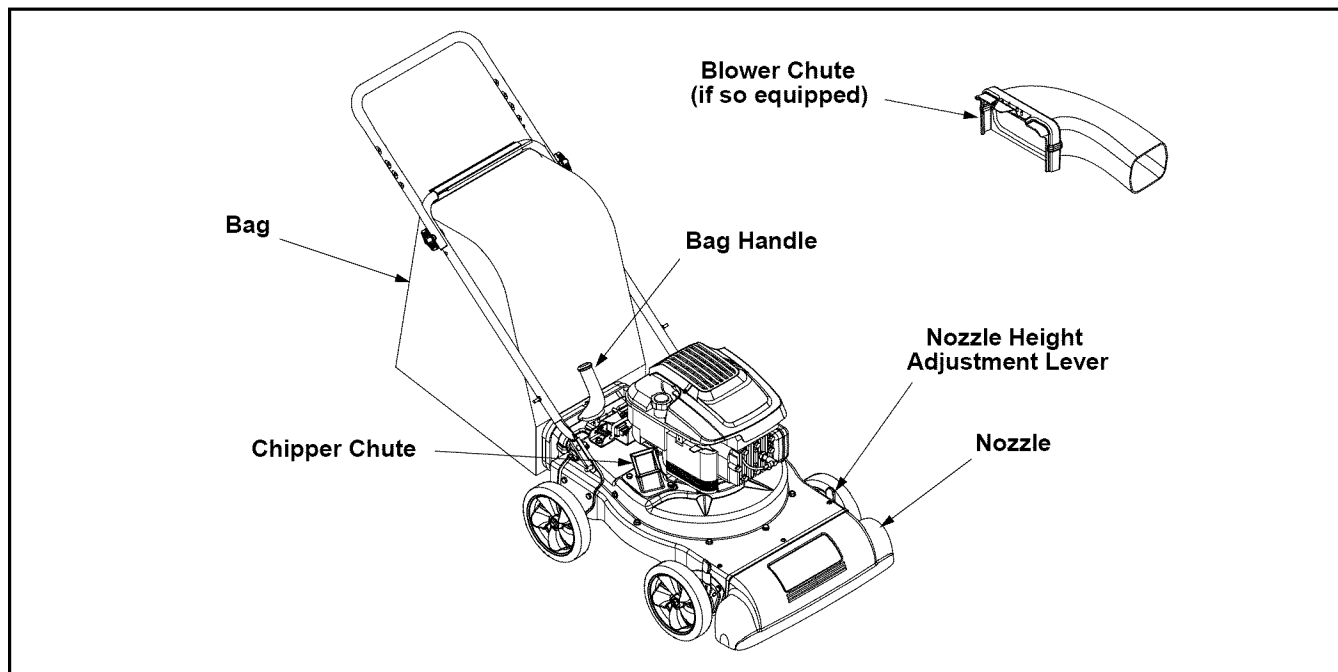

Figure 5
Read this operator's manual and safety rules before operating your chipper shredder vacuum. Compare the illustrations in Figure 5 with your unit to familiarize yourself with the location of various controls and adjustments. Save this manual for future reference.
Collects shredded material fed through the chipper chute or vacuumed through the nozzle. See Figure 5.
Used to grasp bag in order to assist in attaching, removing, and emptying bag. See Figure 5.
Allow twigs and small branches up to 1 1/2" in diameter to be fed into the impeller for chipping. See Figure 5.
small twigs across yard. See Figure 5.
points of the nozzle height adjustment levers once a season with light oil. Refer to Figure 5.
**Wheels:** Lubricate each wheel shoulder screw once a season with light oil. Refer to Figure 5.